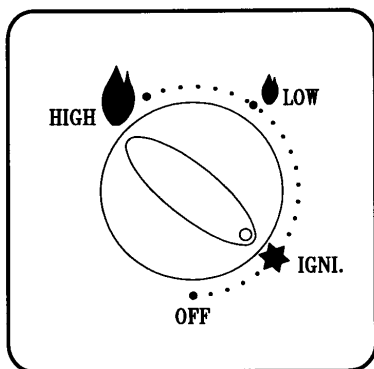

Fig. 5
8. While pressing the control knob continue to turn in a clockwise direction until it stops. The stove is now off. (see Figs. 5&6)